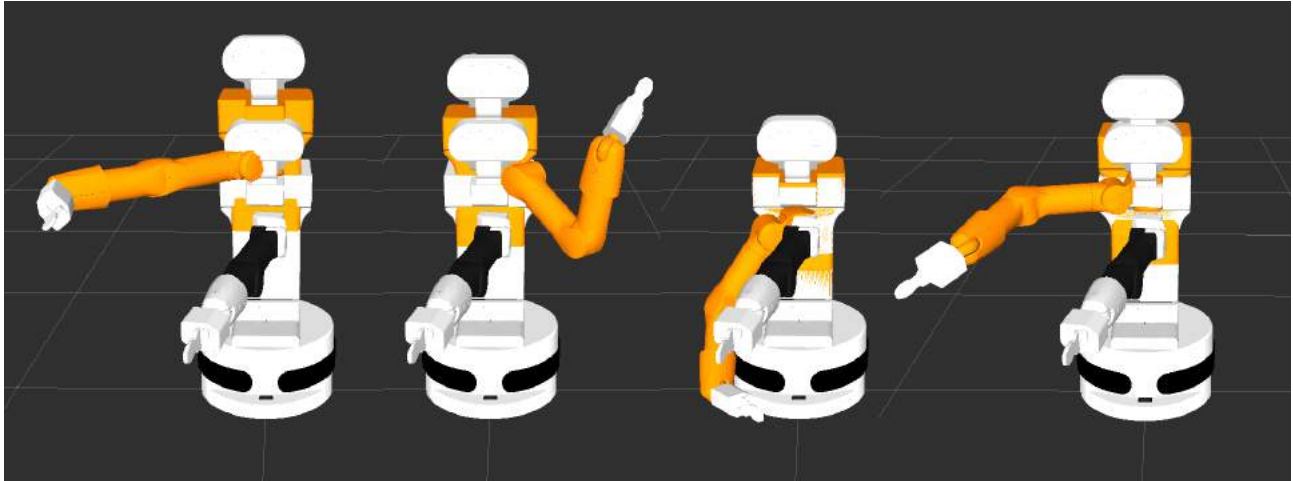

Figure 90: Random poses generated with the GUI
4. By clicking the “Update” button of the goal state new poses can be randomized. Figure 90 shows a few random generated poses.